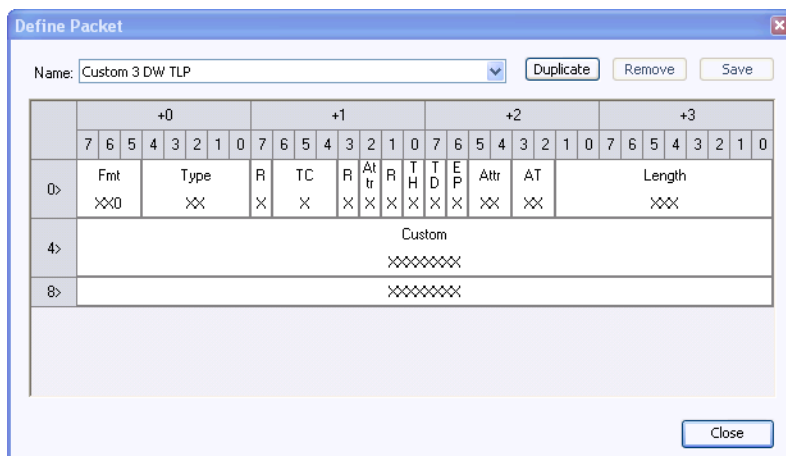

Figure 43: Define Packet window for a Custom element in the Summary Profile window
2. Select one of the default packet types from the Name list. (See Figure 43.)